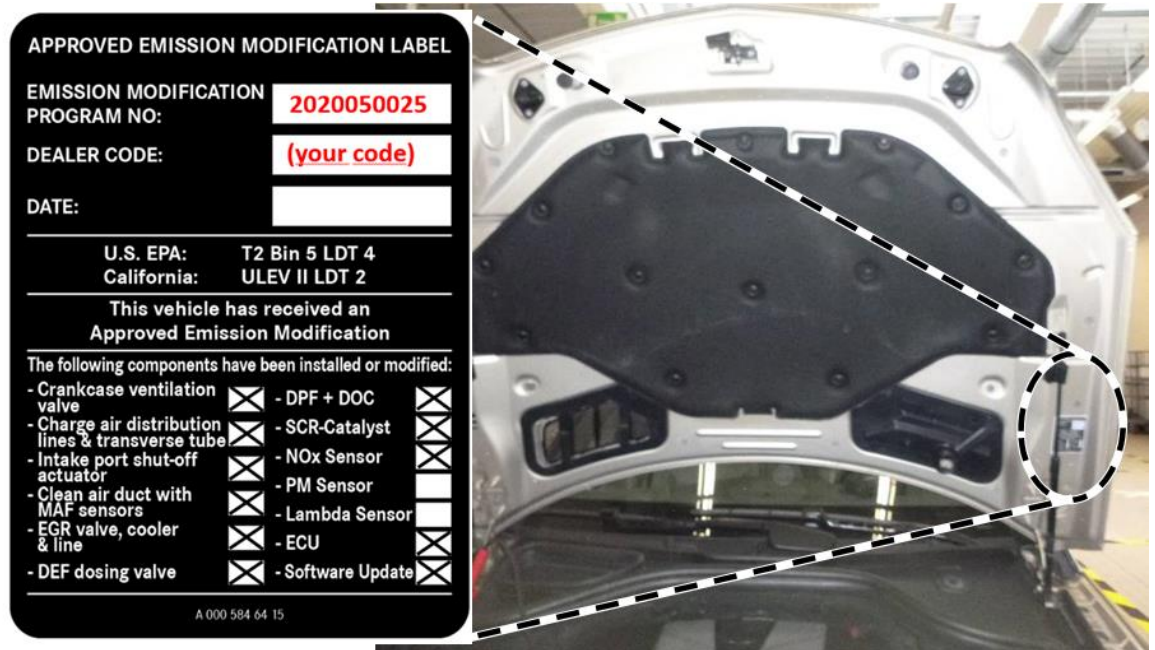

Figure 6
12. Clean the bonding surface of the hood and attach the adhesive label (A 000 584 64 15) **(Figure 6)**.
- i** The fields on the adhesive label must be filled out correctly. Please use black permanent marker. Refer to **(Figure 6)** within the XENTRY procedure.